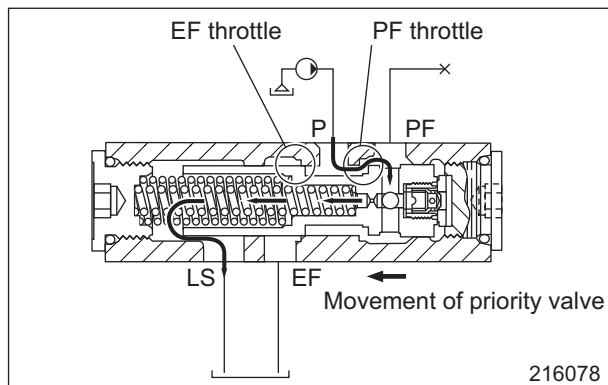

Fig. 5 Hydraulic oil flow in the LS circuit
- (1) The hydraulic oil from P port passes through a PF throttle section and a control orifice inside the spool, and flows out of LS port. When the flow from P port increases, the flow that passes through the control orifice also increases. Then a pressure difference before and after the control orifice is increased; as a result, the spool moves in the direction to close the PF throttle and to open an EF throttle. In other words, when the flow of input oil exceeds certain limits, the EF throttle is opened to drain excess oil, and thereby controlling the increases in pressure difference. As a result, the flow of oil out of LS port remains constant (Fig. 5).